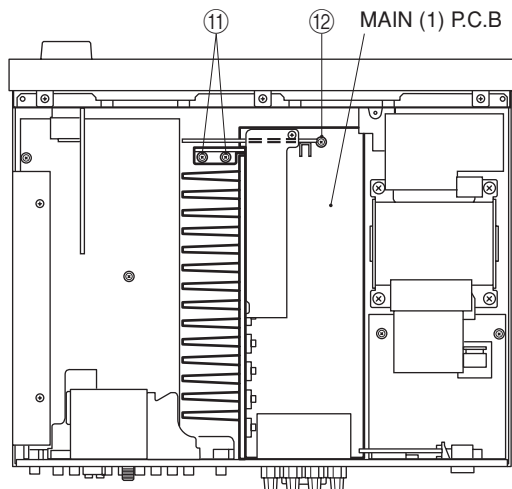

Fig. 3
- Remove 2 screws (⑪) and 1 screw (⑫). (Fig. 3)